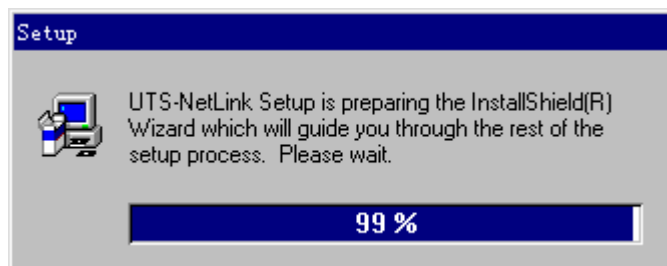

Figure 2-51 Setup message
- 1) Insert the UTS-NetLink 5.2 CD into the CD-ROM drive. Double-click Setup.exe. A setup message is displayed, as shown in Figure 2-51.